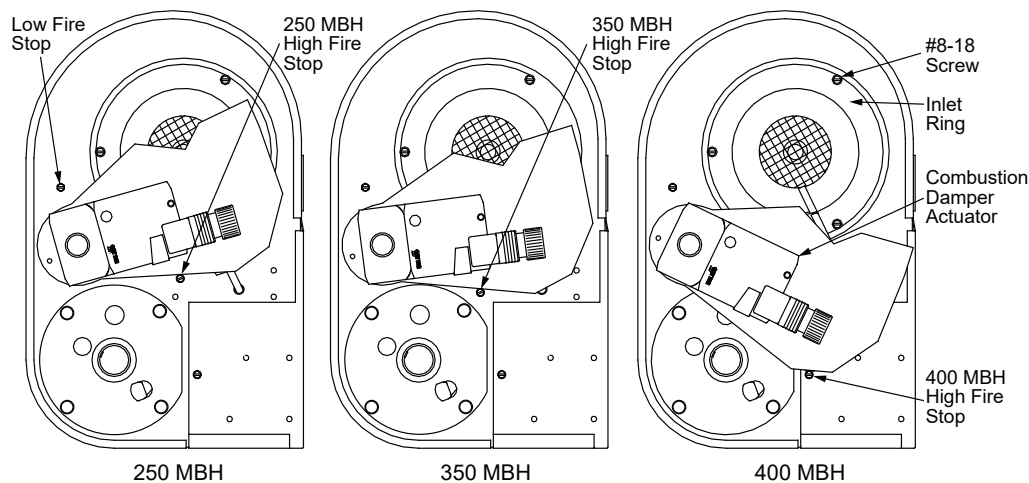

Figure 4: RE4400DS HTD High Fire Damper Locations
8. The damper should be flush with the low fire stop. The O₂ concentration of the flue exhaust at the low fire rate should be approximately 10% +/-2. To adjust the O₂ level at low fire (allow more air or reduce the air), vary the alignment between the damper and the inlet ring. Minimum air shutter adjustment can be done by adjusting the three #8-18 screws on the inlet ring (see Figure 4). To increase or decrease the O₂ percentage substantially, loosen the air damper from the shaft and make necessary adjustments. Check combustion readings to verify burner performance.